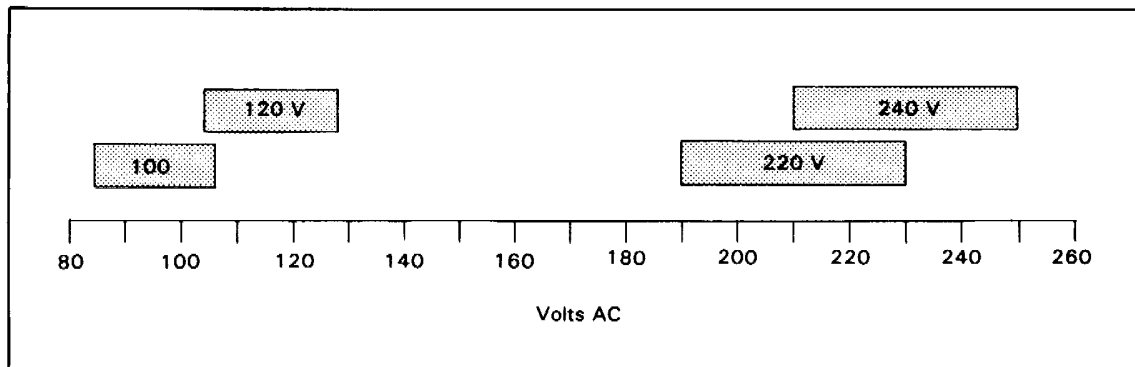
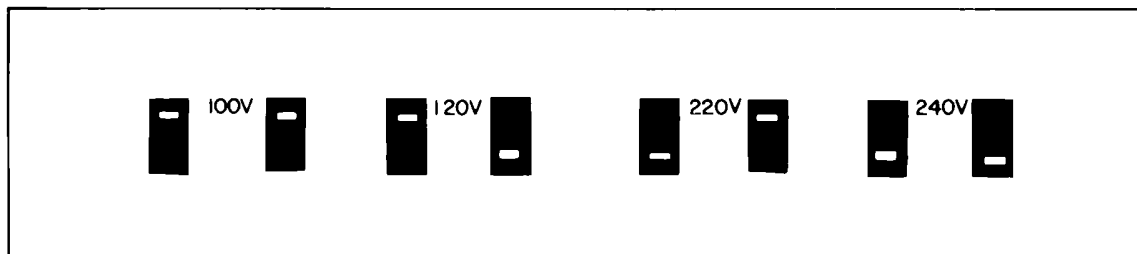

Figure 8-1. Input Range For Each Line Voltage Switch Selection.
Figure 8-2. Switch Positions For Line Voltage Selection.
1. To prevent damage to the instrument power supply circuits, verify that the two line voltage select switches located on the instrument rear panel are selected to the correct line voltage (Figures 8-1 and 8-2) and the correct size line fuse is installed (Table 8-2).
8-7. Line Voltage Selection. Voltage selection switches on the rear panel are used to configure the instrument to operate on one of four input line voltage ranges. The range of input voltages for each configuration of the switches is illustrated in Figure 8-1. Set the switches to conform with the line voltage to be used with this instrument. The switch positions for each input voltage range are indicated on the rear panel and in Figure 8-2.